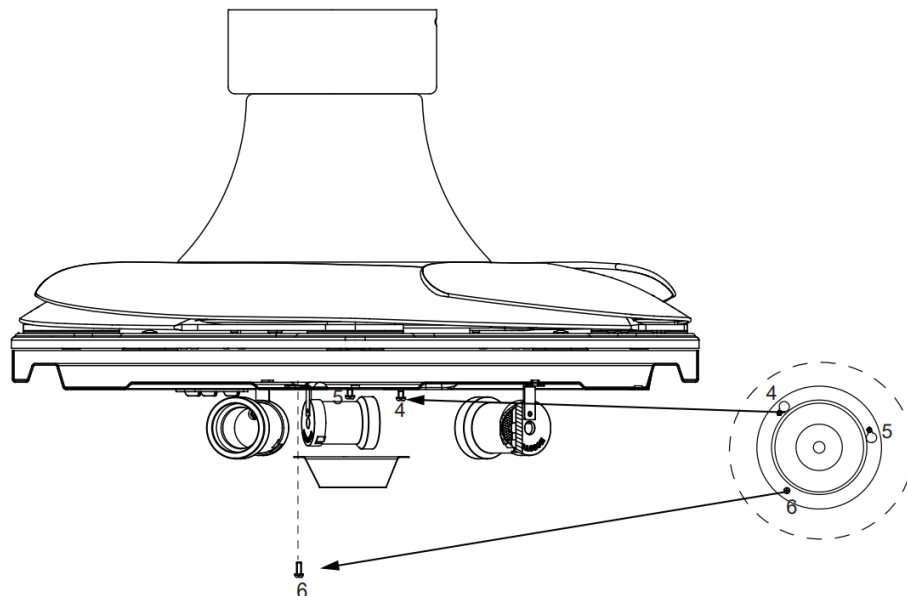

Fig. 10
5. Loosen the screw (6) from the light kit plate. Align the two slot screws with the keyhole slot (4) and (5) of the light kit plate cover. (Fig. 10)
6. Turn the cover counterclockwise until the slot screws are firmly at the end of the slots (6).
7. Secure screw (6) to the light kit plate cover. Tighten all three screws. Do not over-tighten.